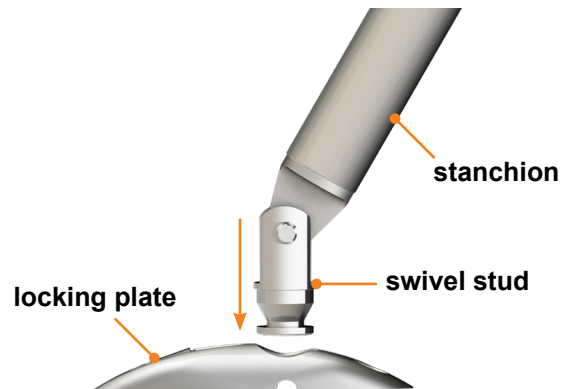

Fig.12
A. Position each swivel stud for insertion into the locking plate (Fig.12).